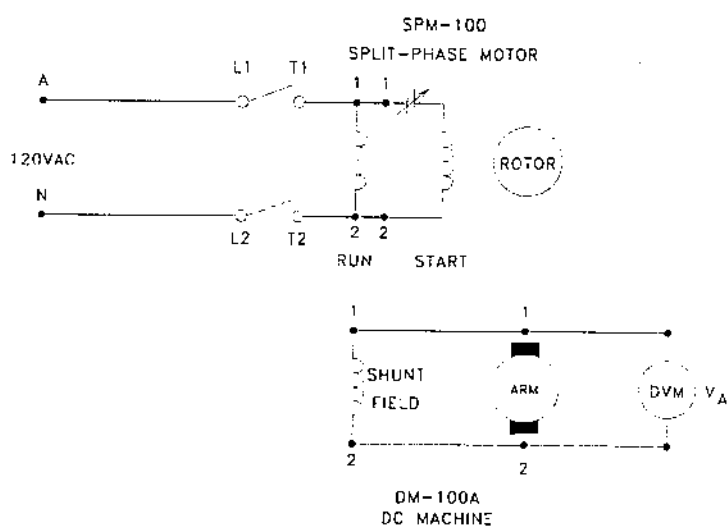

Figure 2-2
3. Now add the shunt field connections as shown in Figure 2-2. Change the digital voltmeter to the 200 volt DC range. Start the motor and observe that the generator output voltage is 115-155 VDC. If the voltage does not build up, stop the AC motor, reverse the shunt field connections, and repeat. Record the generated voltage E_g , the field and armature connections, and the direction of rotation in Table 2-1. This is the NO-LOAD generator voltage.